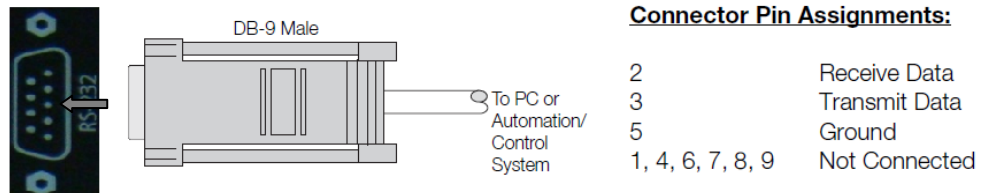

Figure 3-6. RS-232 Control System Connection.
- Use a straight-through RS-232 cable with a 9-pin make connector to connect a PC or home theater control/automation system (if present) to the RS-232 port on the Climate Series LCD; see Figure 3-6.